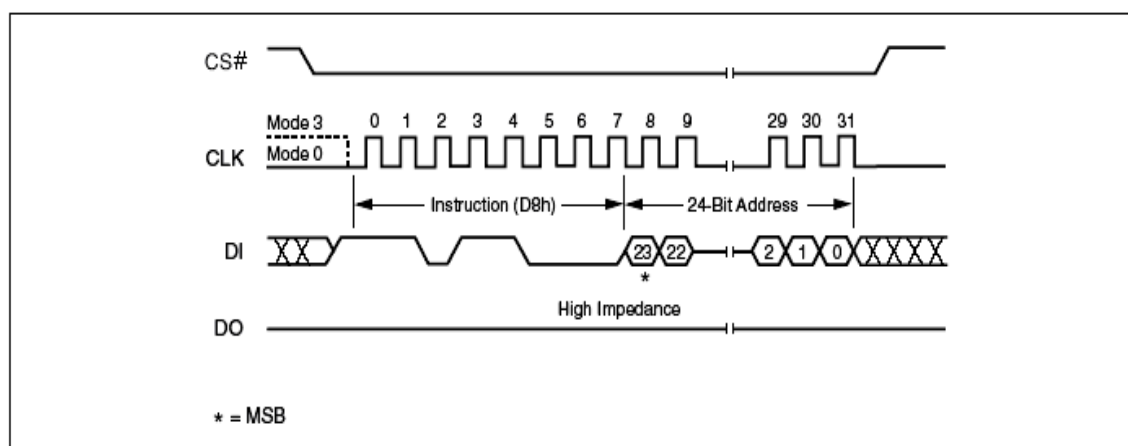

Figure 33. 64KB Block Erase Instruction Sequence Diagram
The instruction sequence is shown in Figure 33. Chip Select (CS#) must be driven High after the eighth bit of the last address byte has been latched in, otherwise the Block Erase (BE) instruction is not executed. As soon as Chip Select (CS#) is driven High, the self-timed Block Erase cycle (whose duration is t_{BE}) is initiated. While the Block Erase cycle is in progress, the Status Register may be read to check the value of the Write In Progress (WIP) bit. The Write In Progress (WIP) bit is 1 during the self-timed Block Erase cycle, and is 0 when it is completed. At some unspecified time before the cycle is completed, the Write Enable Latch (WEL) bit is reset.